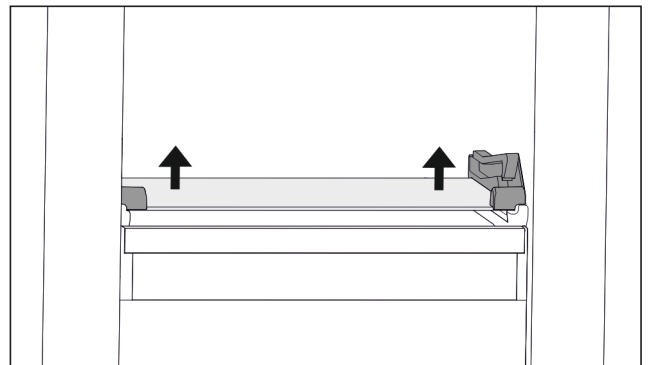

Fig. 72 Tilting drawer glass shelf
- ▶ Push glass shelf upwards from below on both sides. (see Fig. 72)